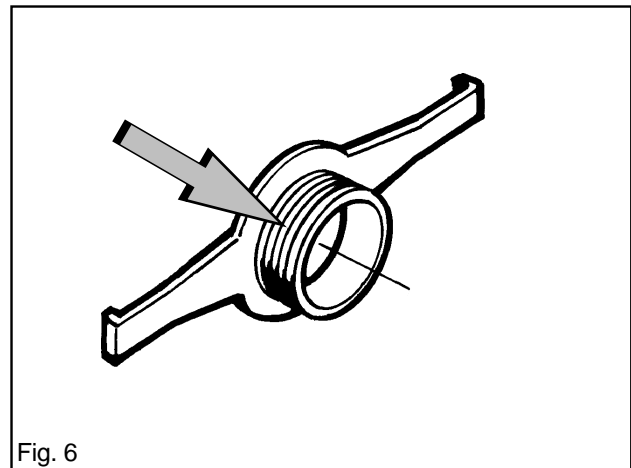

Fig. 6
4. The oil pump drive worm gear is undamaged. See fig. 6.
In part throttle mode (fig. 6) the throttle butterfly (H) is partially open. Fuel is supplied through the diffuser jets (F and G).